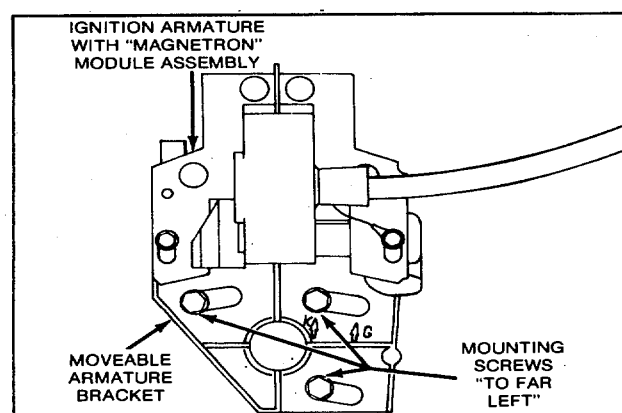

Fig. 29B- Kerosene Operation
2. Kerosene - Position armature bracket to the right, as far as it will go and tighten screws, Fig. 29B.